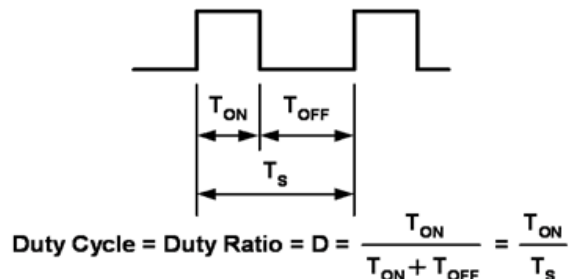

Figure 12.
the human eye will detect a flicker from the light emitted from the LEDs. Between 500 Hz and 20 kHz the circuit may generate audible sound. Dimming is achieved by turning the LEDs on and off for a portion of a single cycle. This on/off cycle is called the Duty cycle (D) and is expressed by the amount of time the LEDs are on ( $T_{ON}$ ) divided by the total time of an on/off cycle ( $T_s$ ) (Figure 12).